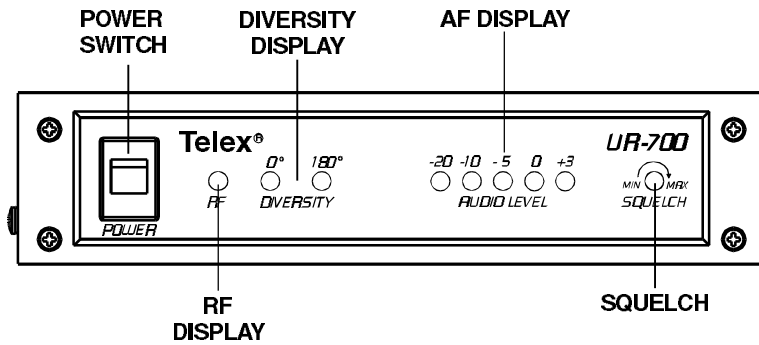

Figure 1
- Remove the front Phillips head screws from each side of each unit. Refer to Figure 1.